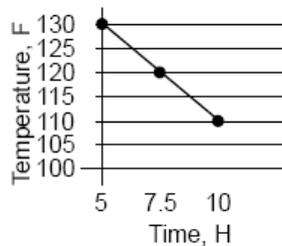

FIGURE 2 CURE RATE AS A FUNCTION OF TIME AND ELEVATED TEMPERATURE (For Reference Only)
- What is the title for Figure 2?
- They will use numeracy skills for this activity (interpretation of Figure 2)
Task 1 What does the information in Figure 2 show?
Task 2 Look at Figure 2. As the temperature rises, what happens to the time?
- (1) The times at 77 +/- 5 F to obtain handling strength are in Table IV.
- (2) Time to achieve handling strength will be cut approximately in half for each 20 F rise in temperature. Conversely, temperature below 75 F will greatly increase the required cure time. Cure time information for ABC5-95 Class B-2 at temperatures greater than 11F is given in Figure 2. There is no humidity requirement at temperatures greater than 110 F.